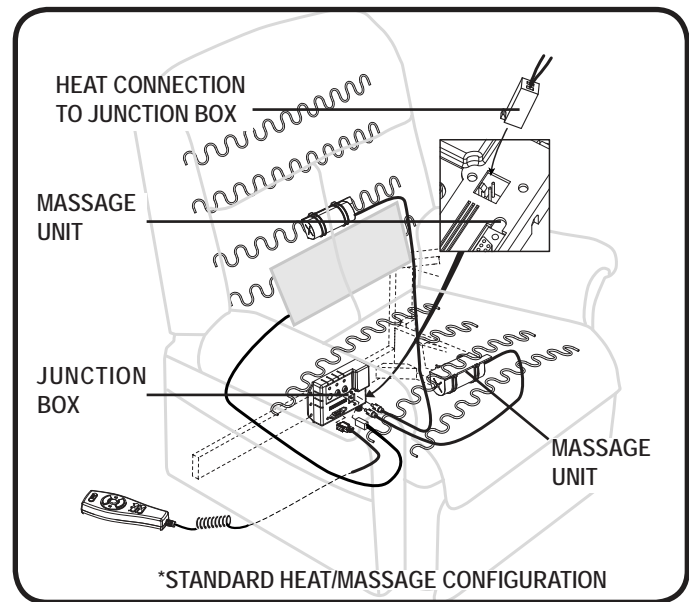

Figure 4.3 Harness Connections
4. Connect the hand control harness to the chair and heat/massage harnesses (if equipped) to the chair (**fig 4.3**).